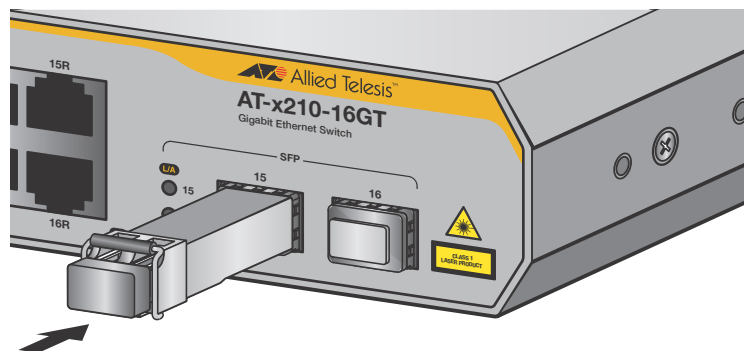

Figure 29. Inserting the SFP on an AT-x210-16GT
5. For an AT-x210-16GT Switch, gently slide the transceiver into the SFP slot until it clicks into place, as shown in Figure 29.